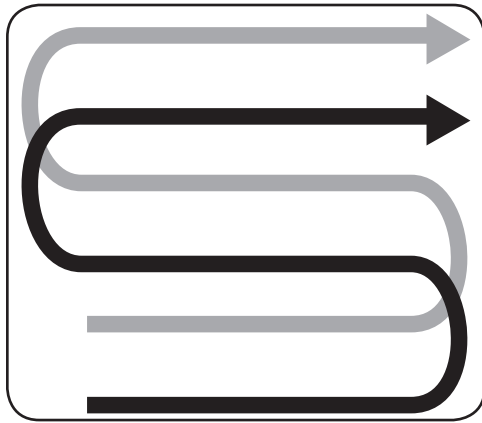

Figure 4-5
- When preparing a seedbed, go over the same path twice in the first row, then overlap one-half the tiller width on the rest of the passes. See Figure 4-5.